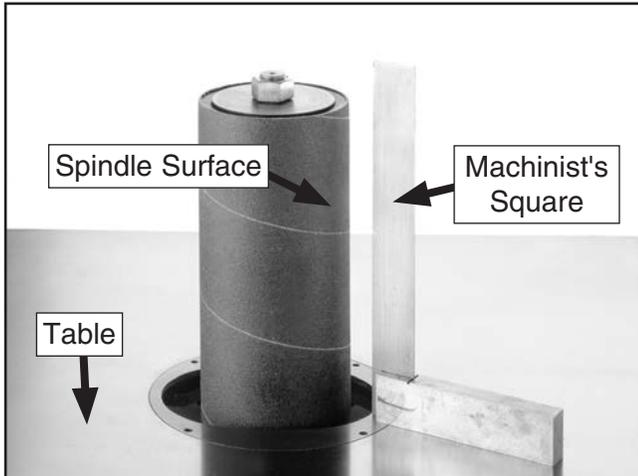

Figure 11. Checking table for square.
- Using a machinist square, bring the table surface square to the spindle surface as shown in **Figure 11**.